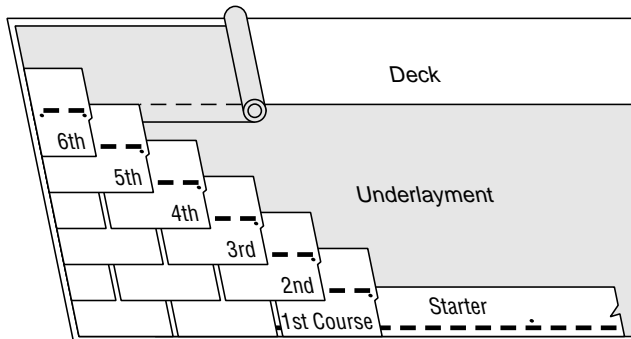

Figure 12-16: Half-Tab Method.
3. Continue with full-length starter-strip shingles along the eaves. (Figure 12-16).
**1ST COURSE:** Apply a full shingle at the lower left corner of the roof, tabs flush with the starter course (Figure 12-16).
**2ND COURSE:** Cut  $6\frac{9}{16}$ " (half of a tab) off the left end of a shingle and apply the remaining piece over the first-course shingle, flush with the left edge and exposing the first course  $5\frac{5}{8}$ " (Figure 12-16).
**3RD THROUGH 6TH COURSES:** Each succeeding course, up to and including the sixth course, should start with a shingle one-half of a tab ( $6\frac{9}{16}$ ") shorter (cut-off from the left end) than the previous course (Figure 12-16). Expose each course  $5\frac{5}{8}$ ".